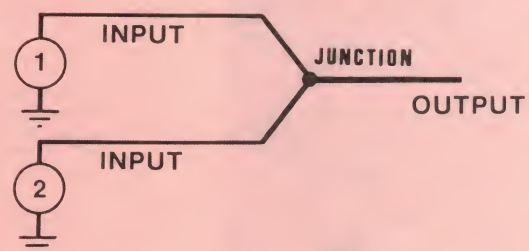

Fig. 3: without op amps, mixing signals could lead to unwanted backfeed from source 1 to source 2, perhaps causing damage (eg, if source 1 was a high voltage).
microphone mixers. The block diagram Fig. 3 shows that if two signals (1) and (2) are joined at a junction then there is always the possibility of backfeed of signal (1) to source (2), which could be harmful if signal (1) was a high voltage.